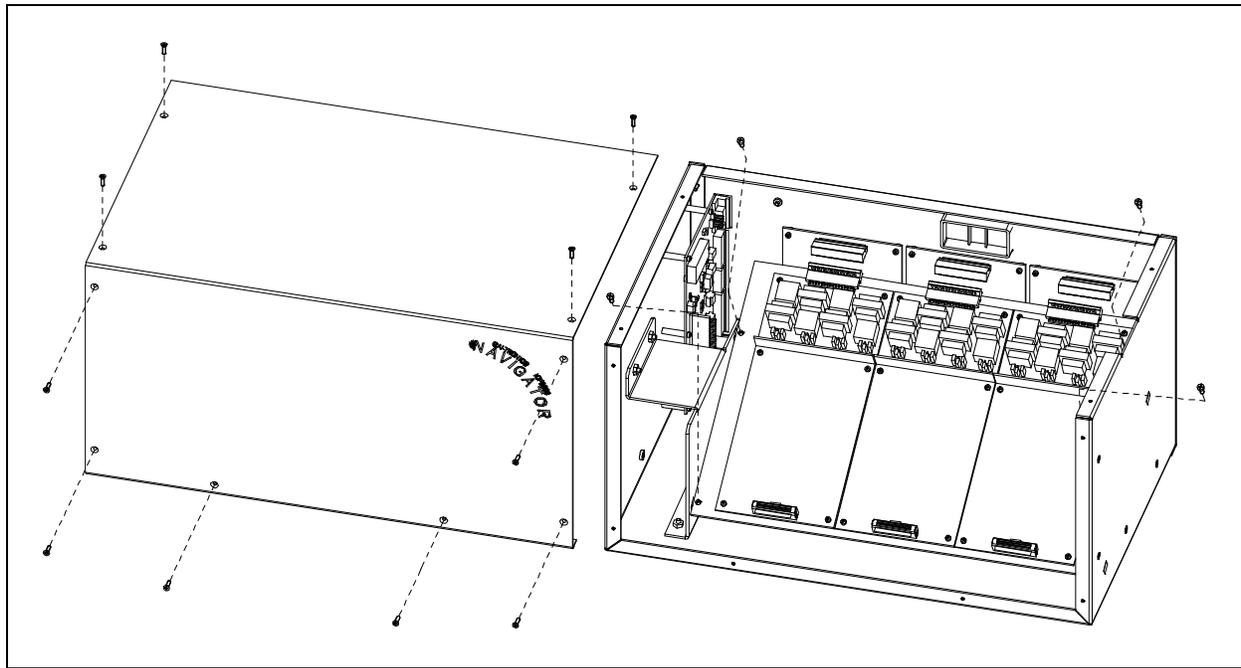

Figure 3.
2. Remove the 10 screws securing the side cover panel and gently lift the cover exposing the attached speaker cable and master display cable. See Figure 3 on page 4.
3. Disconnect all plugs attached to the inner PC board mounting plate. See Figure 3. Then remove the 4 screws attaching the mounting plate to the base. This allows you to remove the mounting plate.